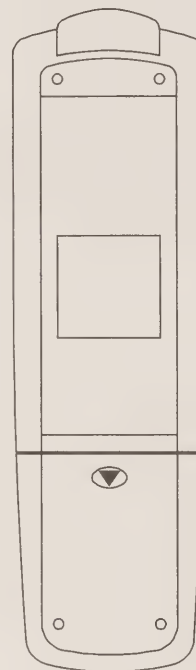

Figure 2. Remote Control transmitter case (rear) showing battery compartment
1. Remove the battery compartment cover from the Remote Control case (rear) by sliding the tab away from the case in the direction of the arrow (see Figure 2).